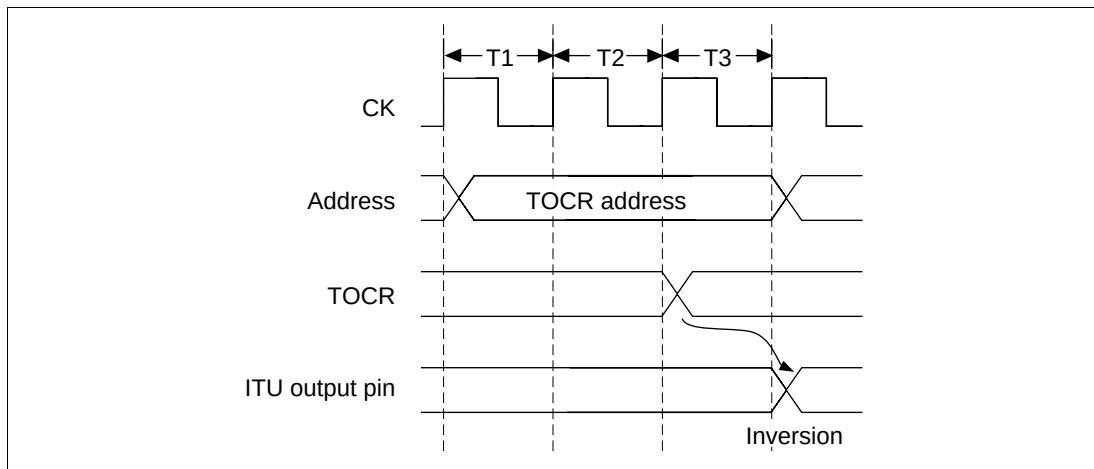

**Figure 10.53 Example of Inverting ITU Output Levels by Writing to TOCR**
**Output Inversion Timing with TOCR:** Output levels can be inverted by inverting the output level select bits (OLS4 and OLS3) in TOCR in complementary PWM mode and reset-synchronized PWM mode. Figure 10.53 illustrates the timing.